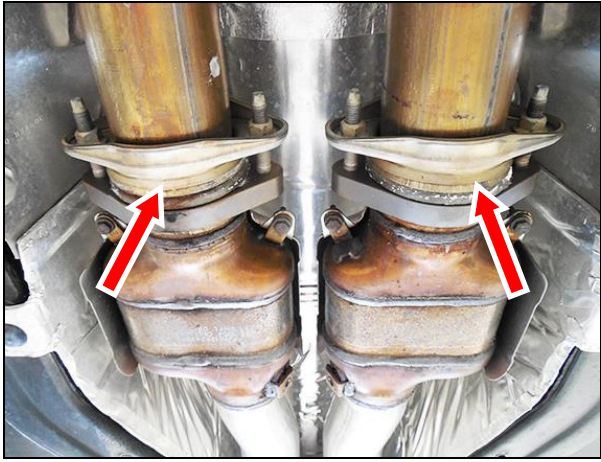
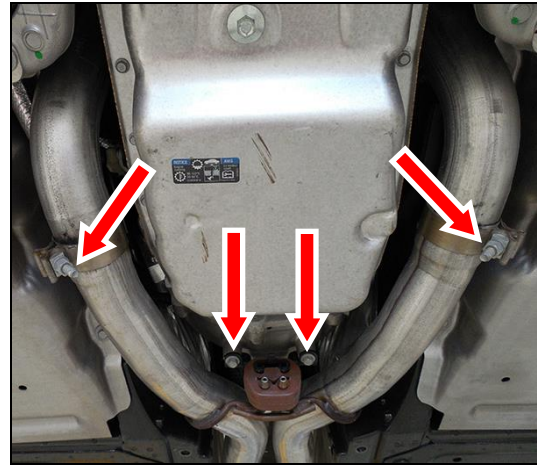

Figure 4
Figure 5
8. Support the X-pipe and remove the (x4) 15mm nuts at the flanges on the down pipes (**Figure 4**). Loosen the 15mm clamp bolts at the slip joint connecting the X-pipe to the over-axle pipes (**Figure 5**). Remove the (x2) 13mm bolts at the center support hanger on the X-pipe (**Figure 5**). Remove the X-pipe from the over-axle pipes.